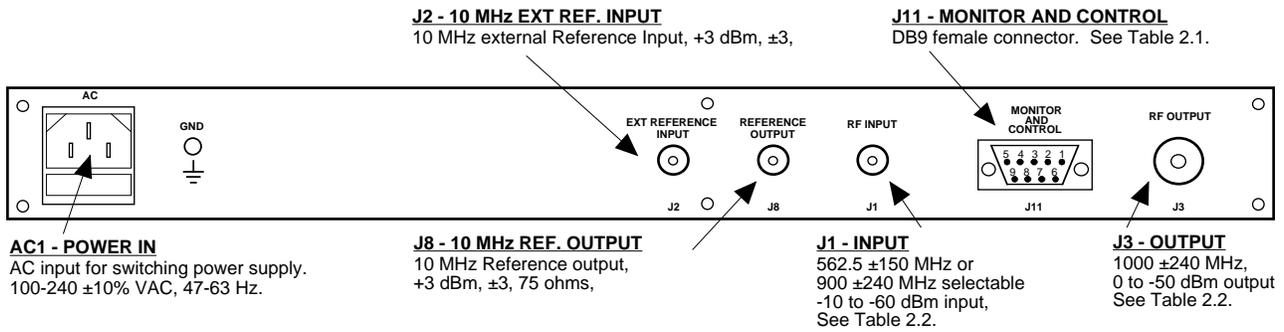

FIGURE 2.1 2083-910 Rear Panel I/O's
Figure 2.1 shows the input and output connectors on the rear panel.
1. Connect a -10 dBm to -60 dBm signal to RF IN, J1 (Figure 2.1)